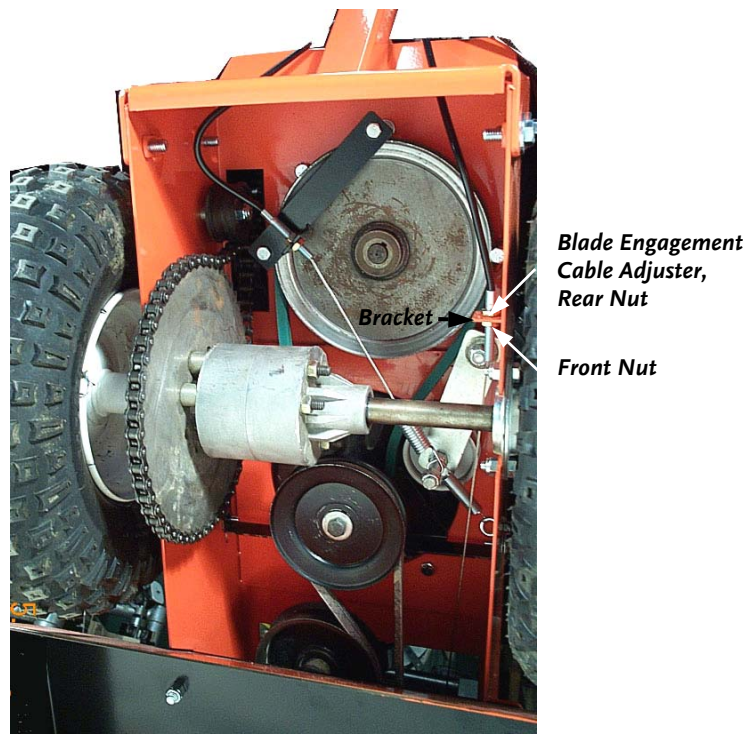
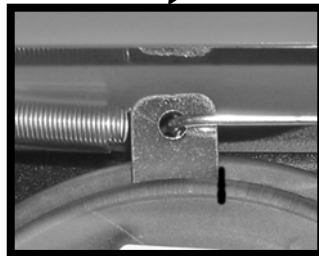

Figure 22
Figure 29
2. Under the machine, on the right hand side, there is a Bracket for adjusting the Blade Engagement Cable (**Figure 22**). To tighten the cable, loosen the Front Nut on the threaded side of the Bracket by 1/8" to 1/4" using a 1/2" Open End Wrench, and then tighten the Nut on the back against the Bracket using another 1/2" Open End Wrench. Check the tension on the Blade Lever and repeat the adjustment as needed. To loosen the cable, just back off the Nut from the back of the Bracket.
NOTE: *With no tension on the Clutch Spring, the hook should rest in the center of the hole in the Clutch Tab (**Figure 29**) when the Tab edge is at the mark previously made on the Clutch housing.*
20. Adjust the Blade Engagement Cable, as required, (reference **Figure 22** on page 29) so that the Clutch Spring Hook is in the center of the Clutch Tab Hole as shown in **Figure 29** on the previous page.